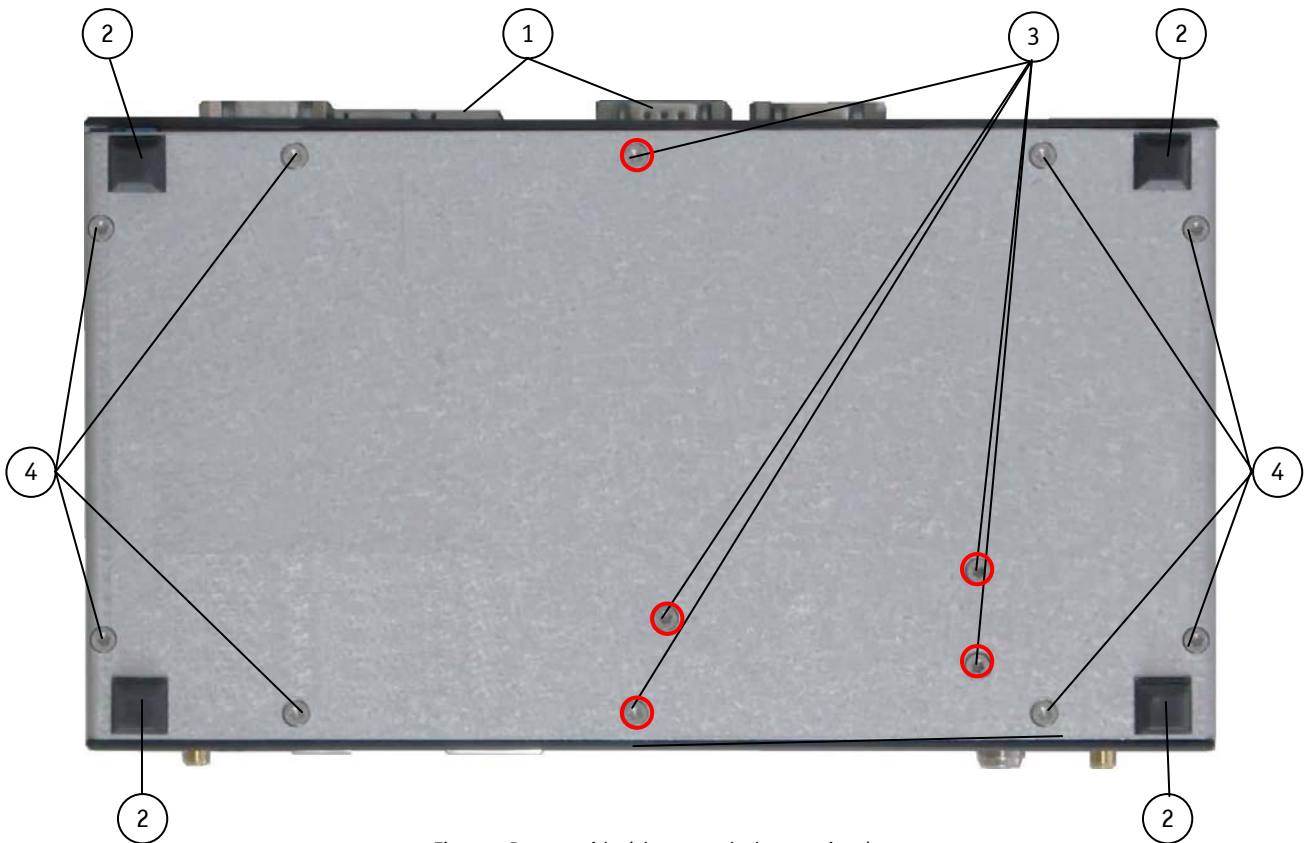

Fig. 19: Bottom side (shown as desktop variant)
Do not loosen or remove the torx screws (Fig. 19, pos. 3) and (Fig. 19, pos. 4).
If you attempt to mount the CB 511 to a table or to a wall, attach to the system only the brackets (Fig. 25 and Fig. 26) with the screws (Fig. 19, pos. 4).